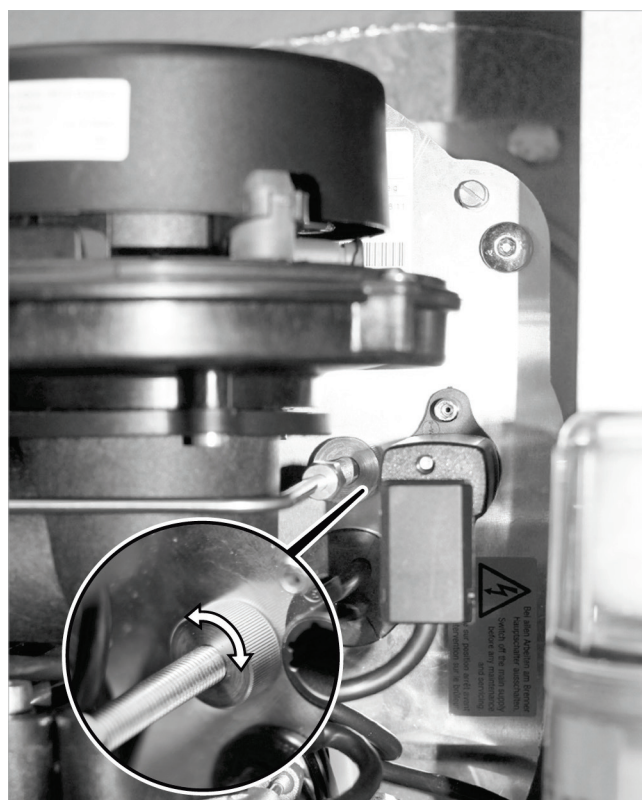

Fig. 120: Knurled nut (limit stop for oil pipe/nozzle fitting)
5. Turn the knurled nut for the nozzle fitting (see → fig. 120, p. 59) anticlockwise by approx. 2 turns (nozzle fitting is pulled "backwards").
1. A knurled nut is located in front of the burner base plate at the connection of the oil pipe and the nozzle fitting (→ fig. 120). You can use this to move the entire mixing unit forwards or backwards. The knurled nut can be adjusted up to a certain point (limit stop of the mixing unit in the flame tube). Adjust the knurled nut so that the mixing unit is touching the limit stop.